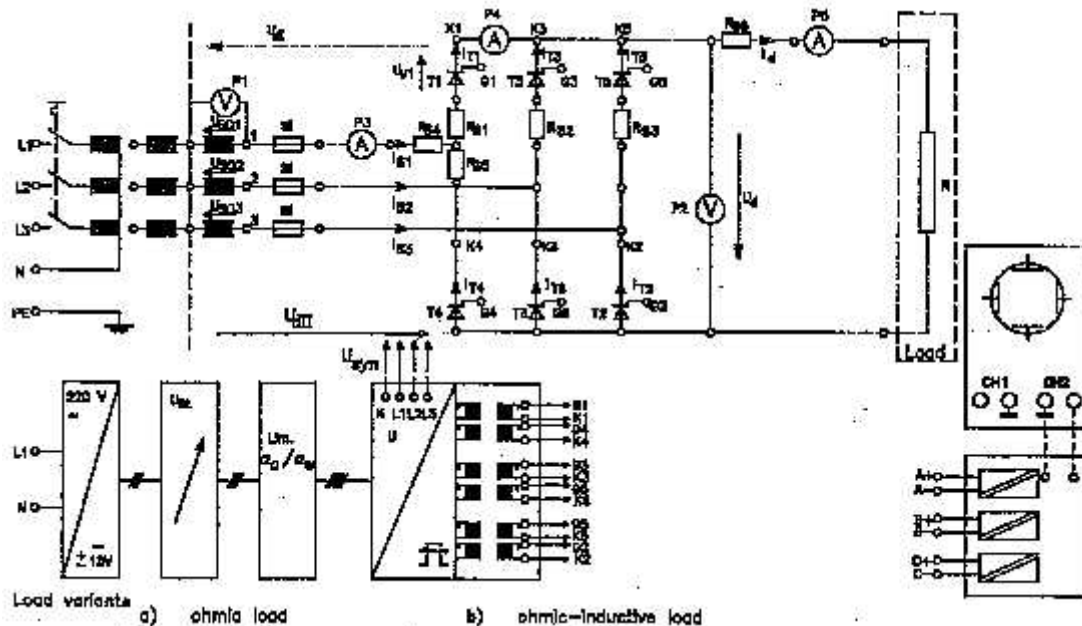

Figure 3 Six pulse bridge controlled rectifier
- Connect the power circuit as shown in Figure 3, while using the supply voltage one at a time: 45V, 90 V and a load resistance of 33 Ω, (three 100 Ω resistance connected in parallel)